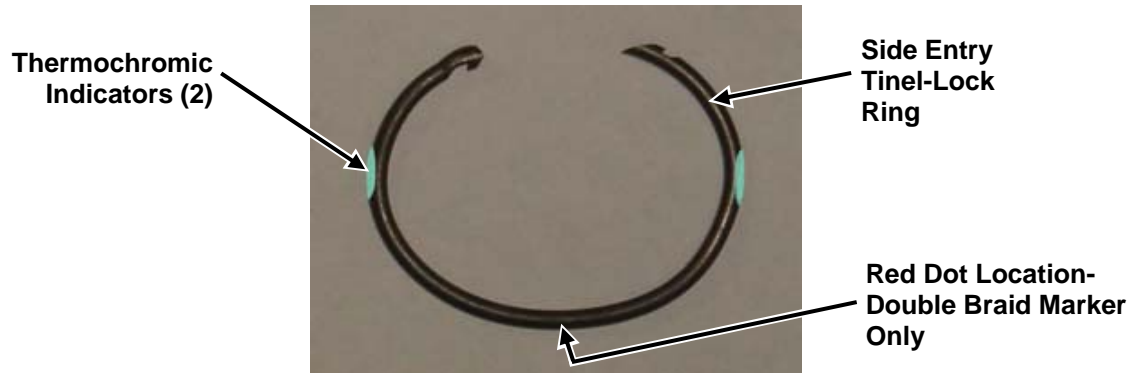

Figure 1. Side Entry Tinel-Lock Ring
The Raychem side entry Tinel-Lock ring is provided in a plastic bag under a specific part number and appears similar to the one shown in Figure 1. The Raychem side entry Tinel-Lock ring used for double braid (BI) layers is marked with red paint to indicate it is the BI model.
2. The AI or BI in Raychem side entry Tinel-Lock ring model number denotes the single (AI) braid layer or double (BI) braid layers or heavier single layers under the Raychem side entry Tinel-Lock ring.
3. The SETR BI model is marked with red paint to indicate it is the BI model (See Figure 1). The SETR AI model is not marked to indicate the AI model. Both models have the Thermochromic Indicator (paint) marking in two places on the Raychem side entry Tinel-Lock ring (SETR).